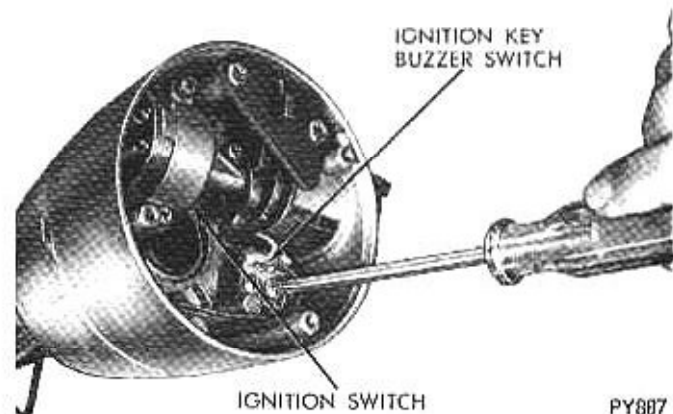

Fig. 10—Ignition Key Buzzer Switch
(1) If equipped with shift indicator quadrant, remove pointer attached to shift housing with one screw.
(2) Remove two screws and lift out buzzer switch (Fig. 10).
(11) Feed buzzer switch wires behind wiring post and down through space between housing and jacket. Position switch in housing and tighten two mounting screws (Fig. 10).
(12) With the ignition key cylinder in the LOCK position, and with the key removed, insert the key cylinder into the lock housing. Press the cylinder into place until contact is made with the pin on the ignition switch cam. Insert the key into the lock and rotate the lock until the slot in the cylinder plate lines up with the pin. Press the key cylinder the remaining way into the lock housing, making sure the retainer bar snaps into its slot in the lock housing.